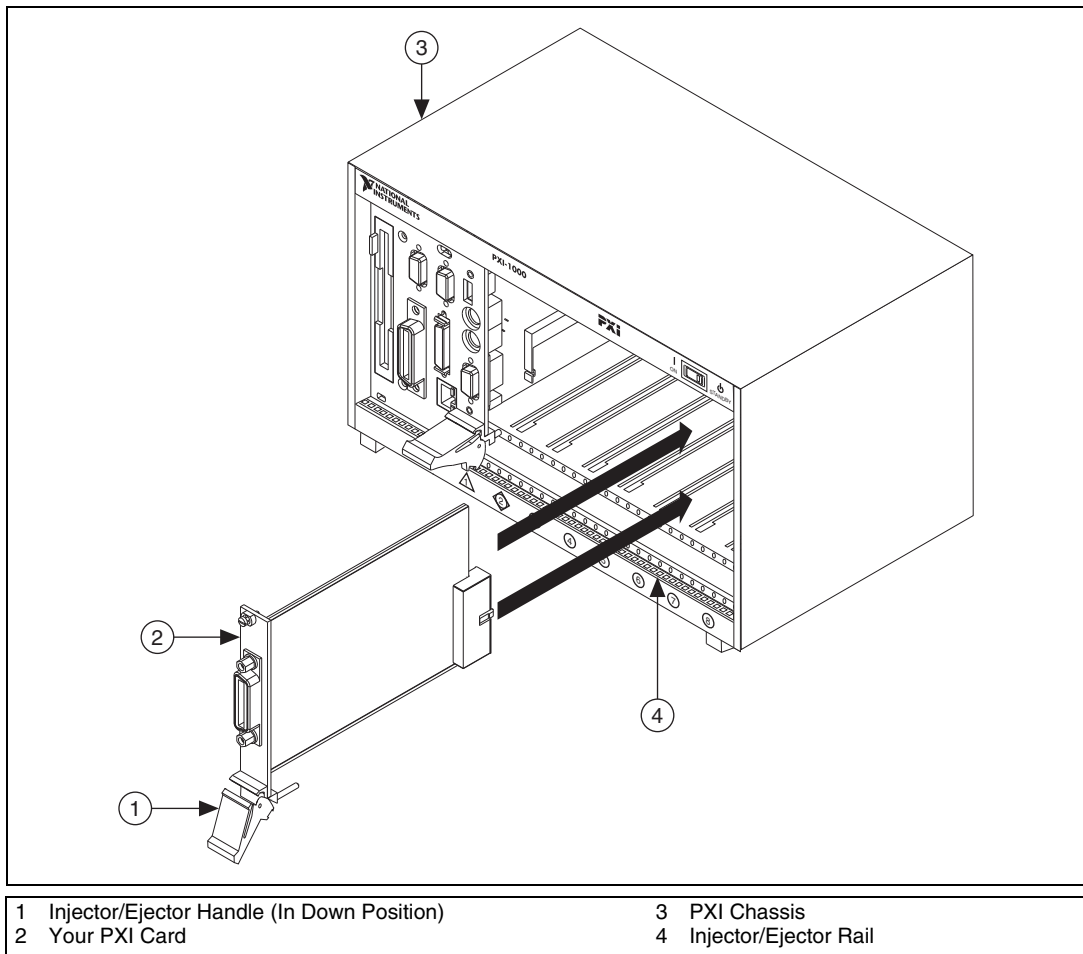

Figure 1-7. Installing Your PXI Card
5. Insert your PXI card into the selected 5 V slot. Use the injector/ejector handle to fully inject the device into place. Figure 1-7 shows how to install your PXI card into a PXI or CompactPCI chassis.